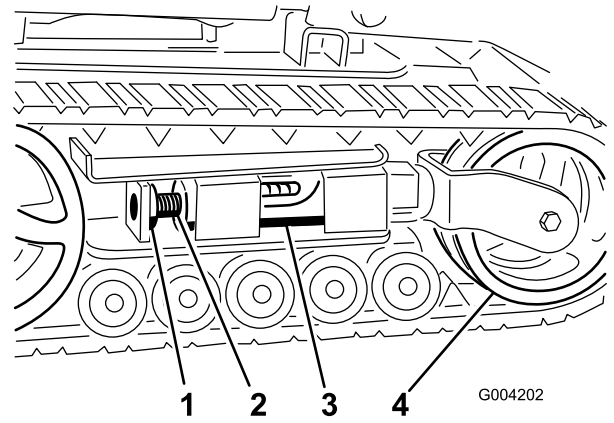
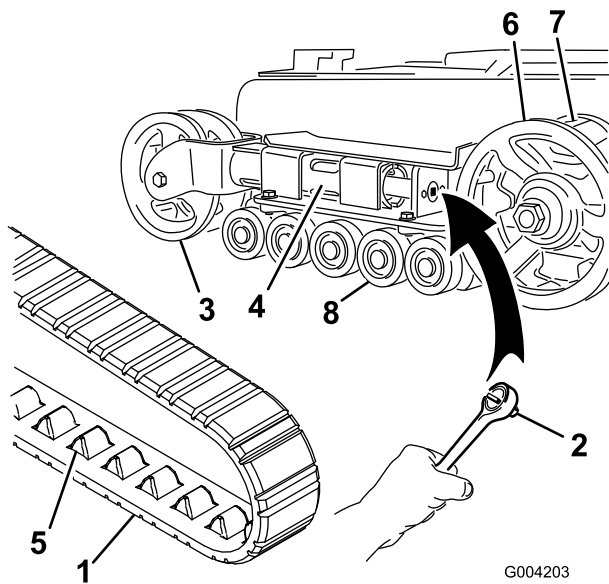
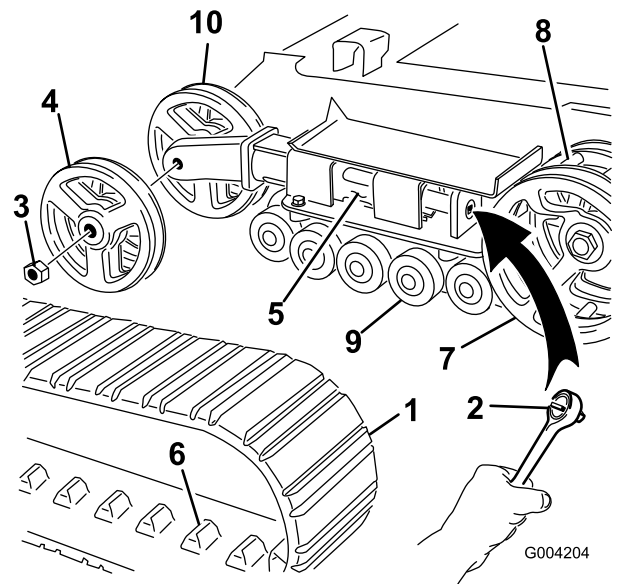

Figure 45
Figure 46
Figure 47
- Remove the locking bolt and nut (Figure 45).
- Align the closest notch in the tension screw to the locking bolt hole and secure the screw with the locking bolt and nut (Figure 45).
Note: You have narrow-width tracks if the front tension wheels are mounted inside a fork on the end of the tension tube (Figure 46).
- Using a 1/2-inch drive ratchet, release the drive tension by turning the tensioning screw clockwise (Figure 45 and Figure 46).
6. Push the tension wheel toward the rear of the unit to move the tension tube against the frame (Figure 46).
8. When the track is off the tension wheel, remove it from the drive sprocket and road wheels (Figure 46).
9. Beginning at the drive sprocket, coil the new track around the sprocket, ensuring that the lugs on the track fit between the cogs on the sprocket (Figure 46).
10. Push the track under and between the road wheels (Figure 46).
Note: You have wide-width tracks if the front tension wheels are mounted on the sides of the end of the tension tube (Figure 47).
4. Remove the locking bolt and nut (Figure 45).
5. Using a 1/2-inch drive ratchet, release the drive tension by turning the tensioning screw clockwise (Figure 45 and Figure 47).
6. Push the tension wheel toward the rear of the unit to move the tension tube against the frame (Figure 47).
7. Remove the nut securing the outer tension wheel and remove the wheel (Figure 47).
8. Remove the track (Figure 47).
9. Remove the nut securing the inner tension wheel and remove the wheel (Figure 47).
13. Install the inner tension wheel and secure it with the nut removed previously (Figure 47).
15. Install the new track, ensuring that the lugs in the track fit between the cogs in the middle of the drive sprocket (Figure 47).
16. Install the outer tension wheel and secure it with the nut removed previously (Figure 47).
6. Place the greased road wheel cap over the bolt head (Figure 46).
7. Secure the road wheel cap with the snap ring (Figure 46).